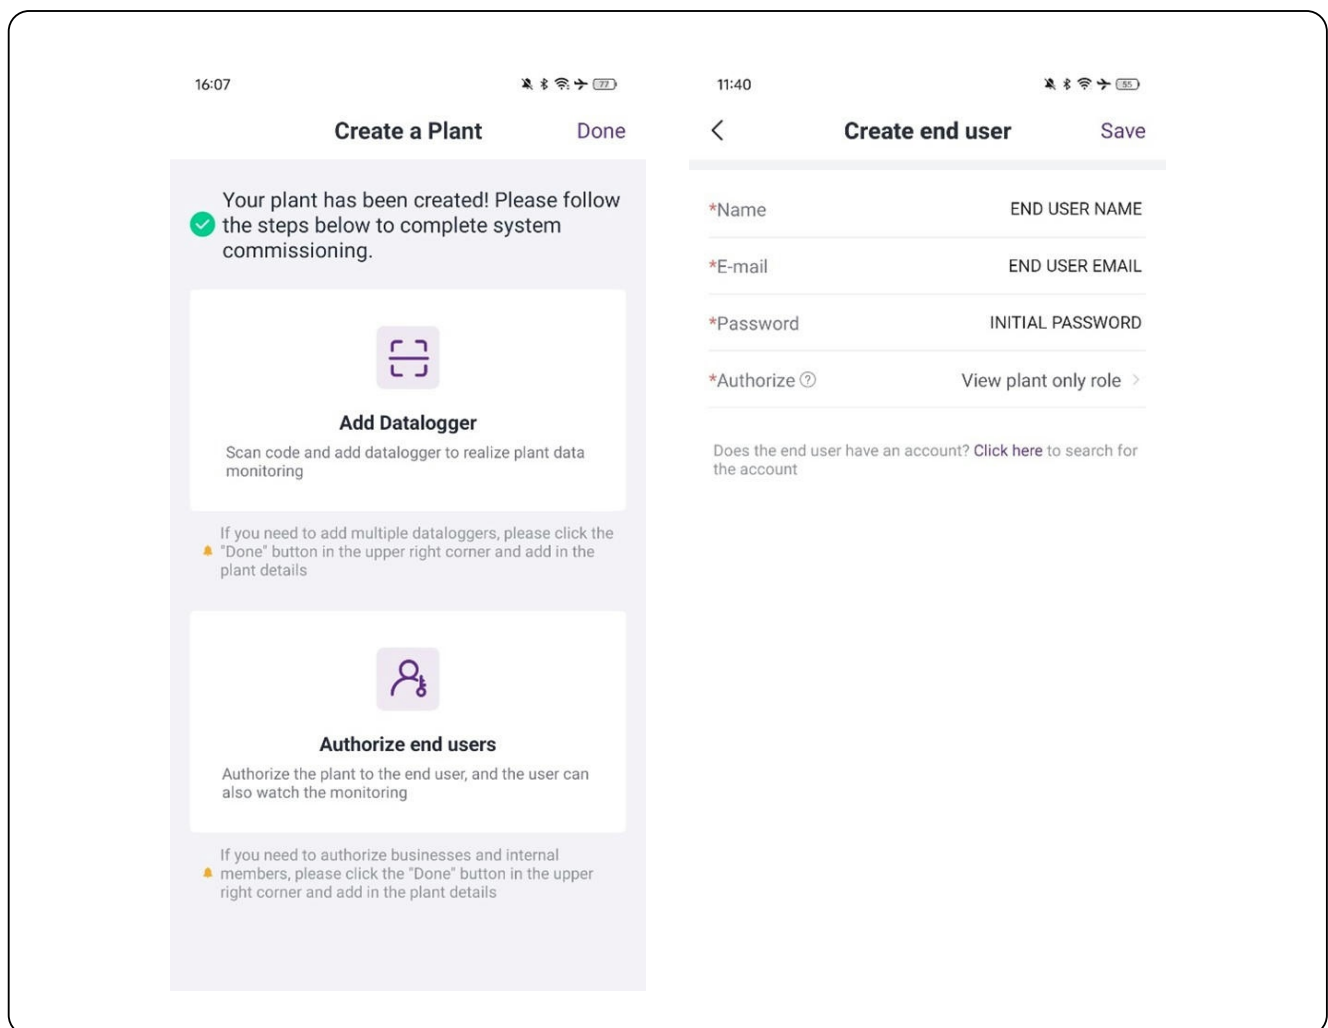

Figure 32: Create end user
4. To add the Data Logger to your site, click 'Add Datalogger' and scan the QR code of the datalogger, per Figure 32.